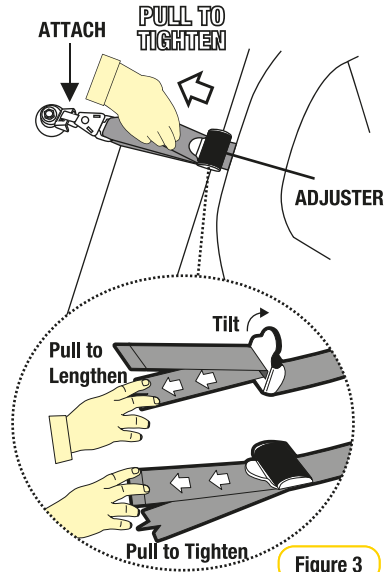

Figure 3
- Step 3:** Position the lap section of the vehicle seat across the child’s lap then insert the buckle tongue in to the belt buckle until you hear “CLICK”. Ensuring the lap portion is positioned under the armrests and over the child’s thighs (refer Figure 3).